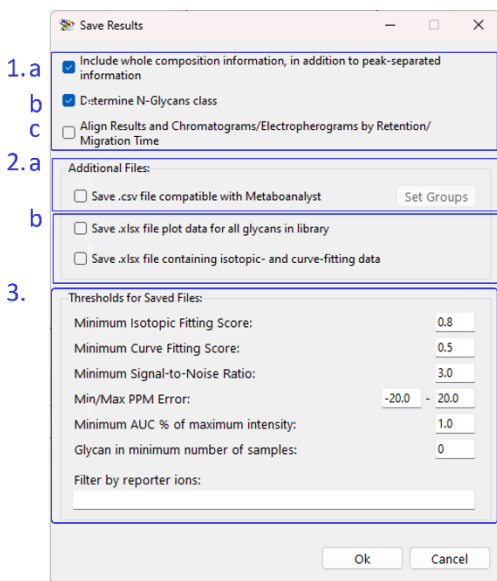

Fig. 11: *Save Results window*
3.4 Save Results Window (Fig. 11)